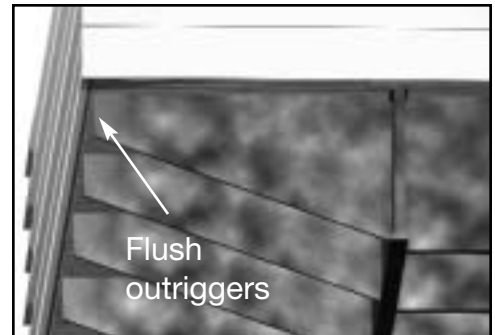

Fig. 2
2. If the outriggers and hitch plate are both flush, all StoneSkirt columns should be installed outside the home. (Fig. 2 & 4)
3. If the outriggers are flush and the hitch plate is recessed, install all StoneSkirt columns outside the home. (Fig. 2 & 3)